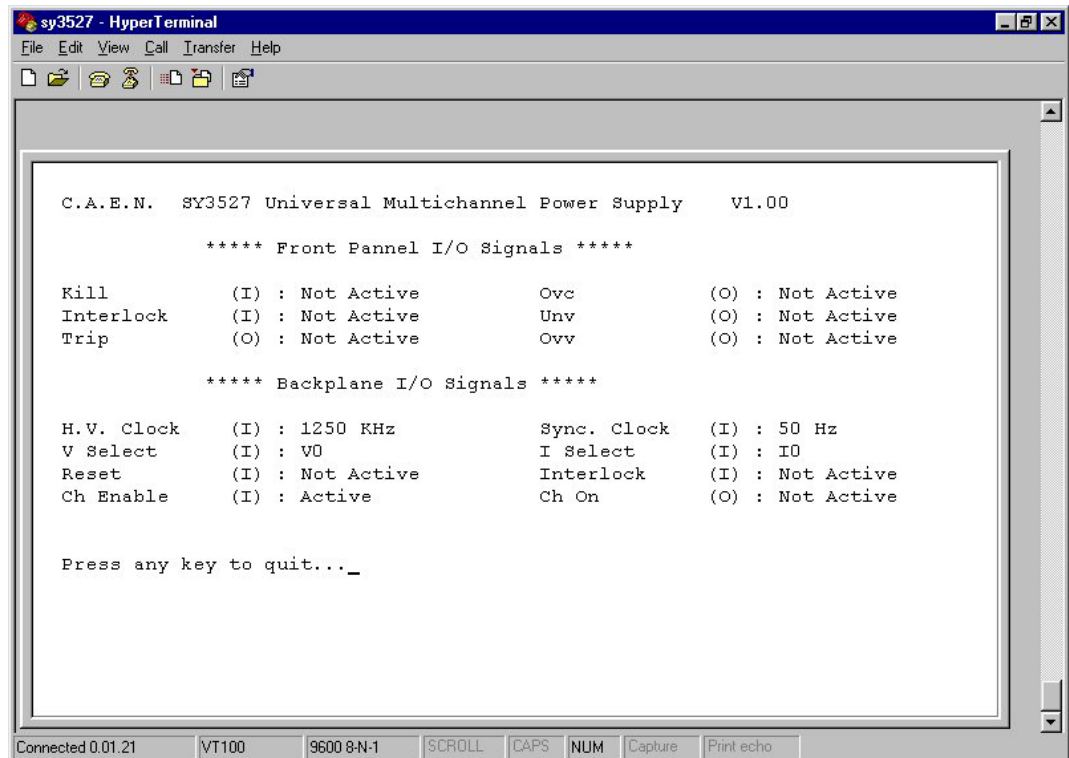

Fig. 5.3 – I/O Status Window
- I/O STATUS:** shows the status of the system's front panel and back plane signals (see Fig. 5.3)